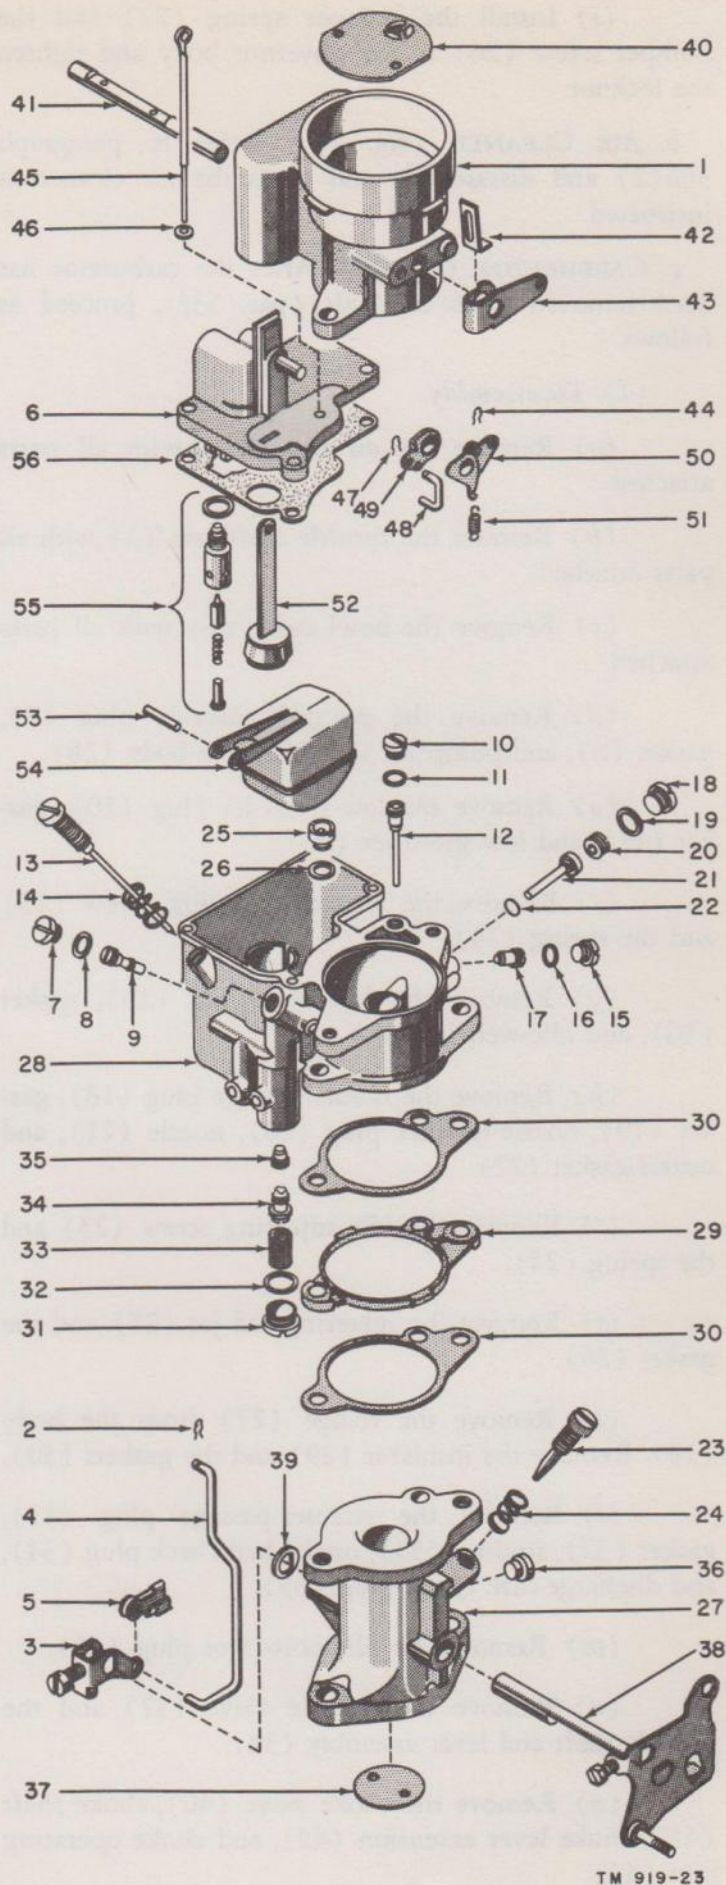

Figure 23. Carburetor, exploded view.
c. CARBURETOR (fig. 23). After the carburetor has been removed from the unit (par. 53f), proceed as follows:
LEGEND FOR FIGURE 23